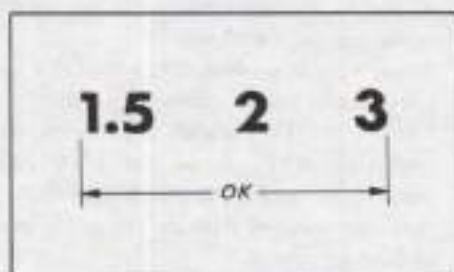

Fig. 2-2.
- 8) Turn the focus ring with the zoom lens still on wide angle (12mm) setting, and confirm that the center is clearest within the range shown in Fig. 2-2.